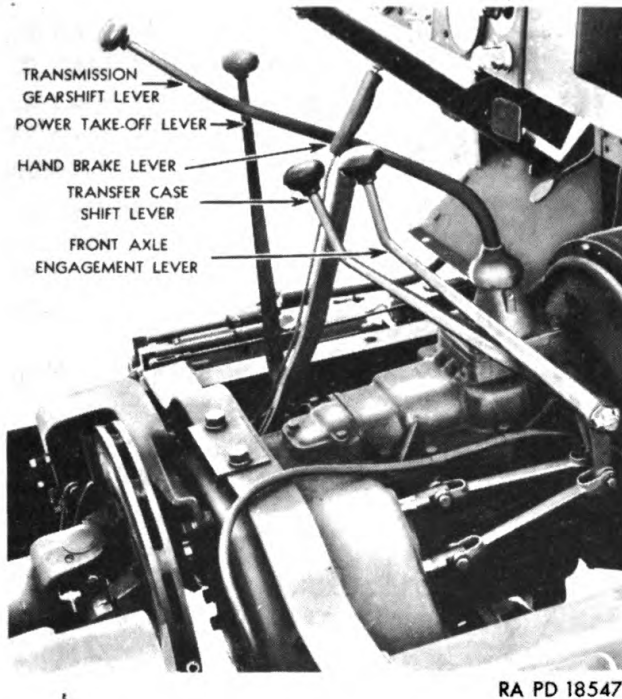

Figure 108 — Transmission and Transfer Case Installed — Right Side
a. **Description** (figs. 108 to 111). The transmission and transfer case combined unit is mounted to the rear of the engine. The clutch housing is attached to the engine flywheel housing. The transmission is a constant-mesh helical-gear type with four forward speeds and one reverse speed. The transfer case has both direct drive and under-drive. It also incorporates a declutching device for engaging and disengaging the front axle drive. The transmission case and transfer case are bolted together but may be separated for individual servicing of the two units. The transmission has a covered opening at the left-hand side for installation of a power take-off for the winch drive on winch-equipped vehicles. The transmission shift lever is mounted at the transmission. Two additional shift levers, mounted on a common pivot pin on the side of the transmission, are provided to control the transfer case range and front axle engagement. Control for the transfer case, both for the front axle and for the transfer case gear range, is accomplished by control rods. The weight of the combined transmission and transfer case assembly is approximately 503 pounds when equipped with power take-off. The weight of the power take-off is approximately 36 pounds.